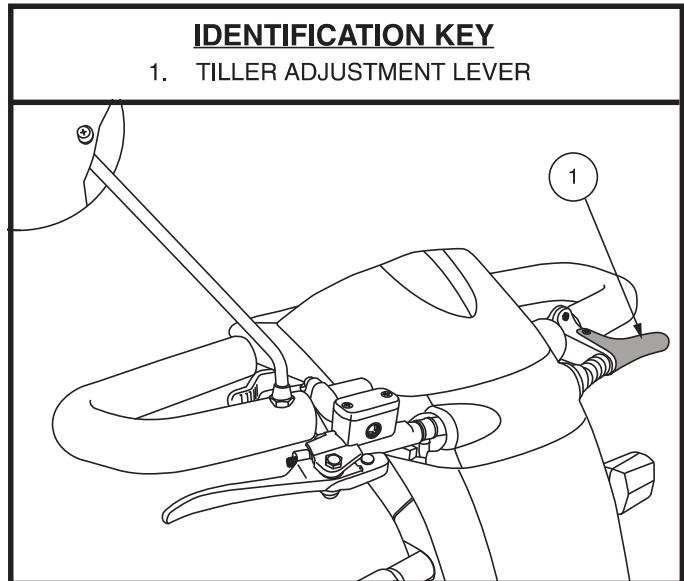

Figure 17. Tiller Adjustment Lever
1. Squeeze the tiller adjustment lever. See figure 17.